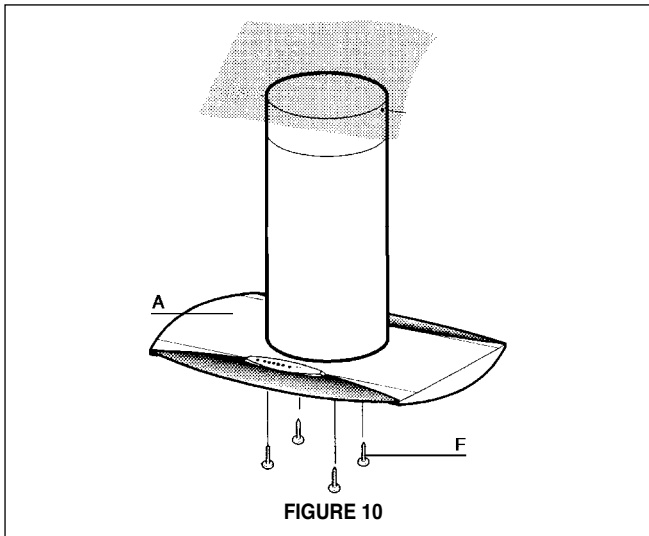

FIGURE 10
4. From below, attach the CANOPY SECTION (A in FIGURE 10) to the assembled chimney support using the four screws provided (F in FIGURE 10).